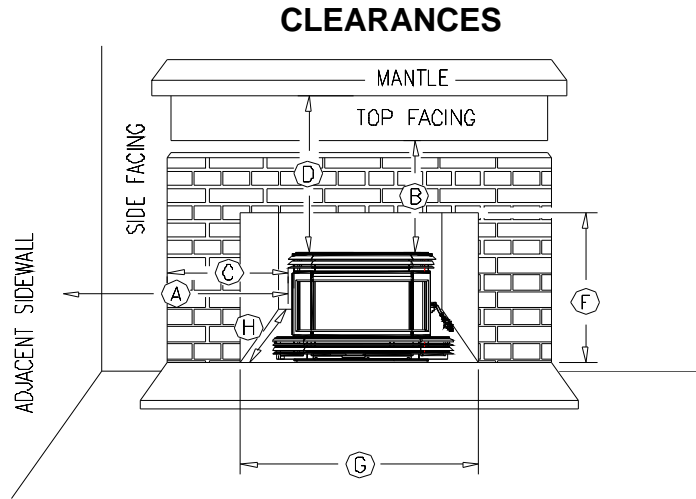

Figure 2.1
2.2 Suitable Fireplace Dimensions (refer to Figure 2.1)